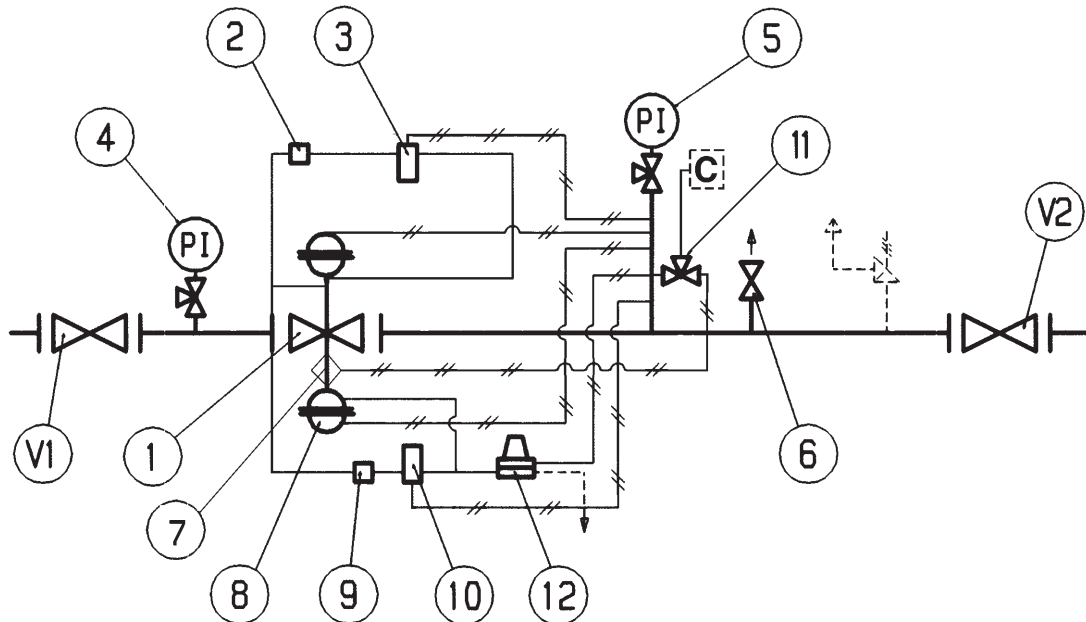

Fig. 22
5.4 MESSA IN SERVIZIO CON REGOLATORE REVAL 182 E VALVOLA ACCELERATRICE (FIG. 22)
5.4 COMMISSIONING REGULATOR WITH REVAL 182 AND ACCELERATING VALVE (FIG. 22)